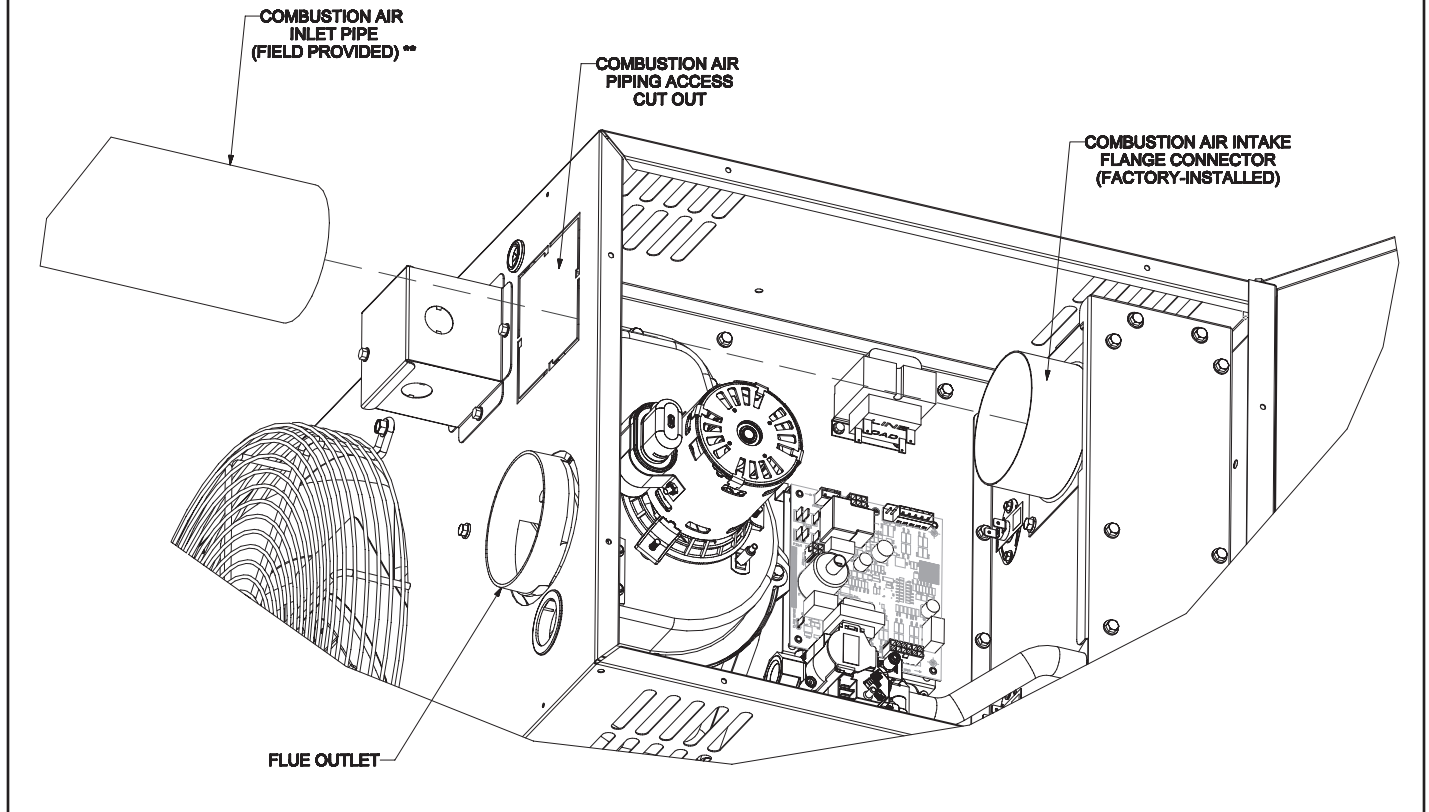

FIGURE 6
- 8 - Remove the combustion air piping access cutout. See figure 6.